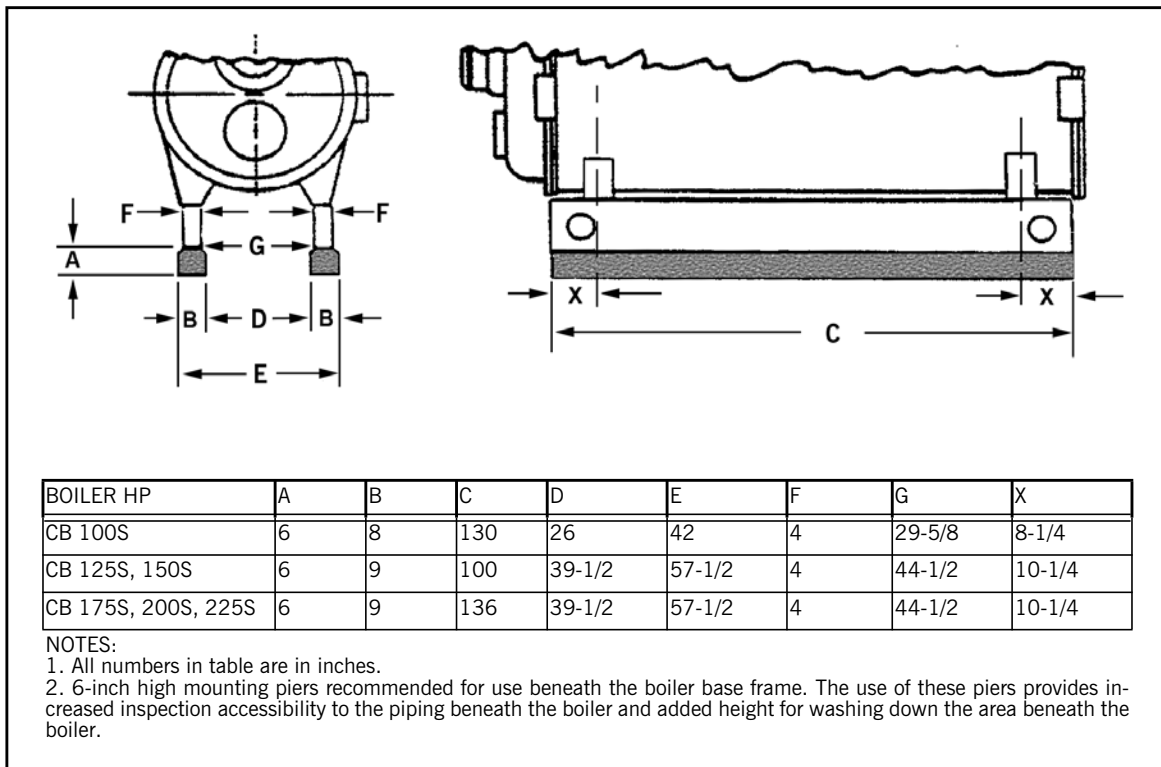

Figure 3. Model CB Ohio Special Boiler Mounting Piers
- Figure 3. Model CB Ohio Special Boiler Mounting Piers.